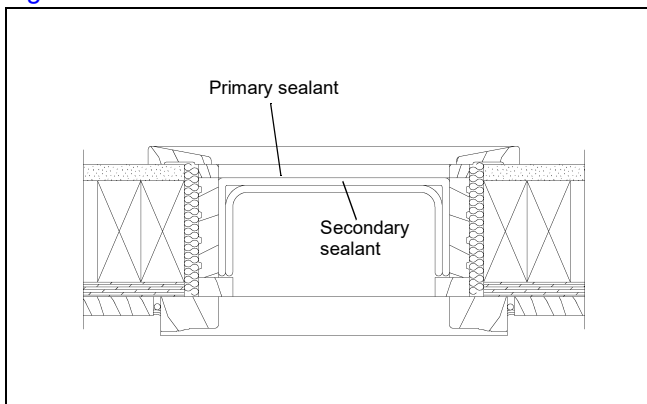

Figure 5
5. Remove any debris or dirt in the opening. Apply a 1/4" (6) bead of sealant at both sill to jamb joints and on the back of the interior sash stops or moulding. See Figure 5.